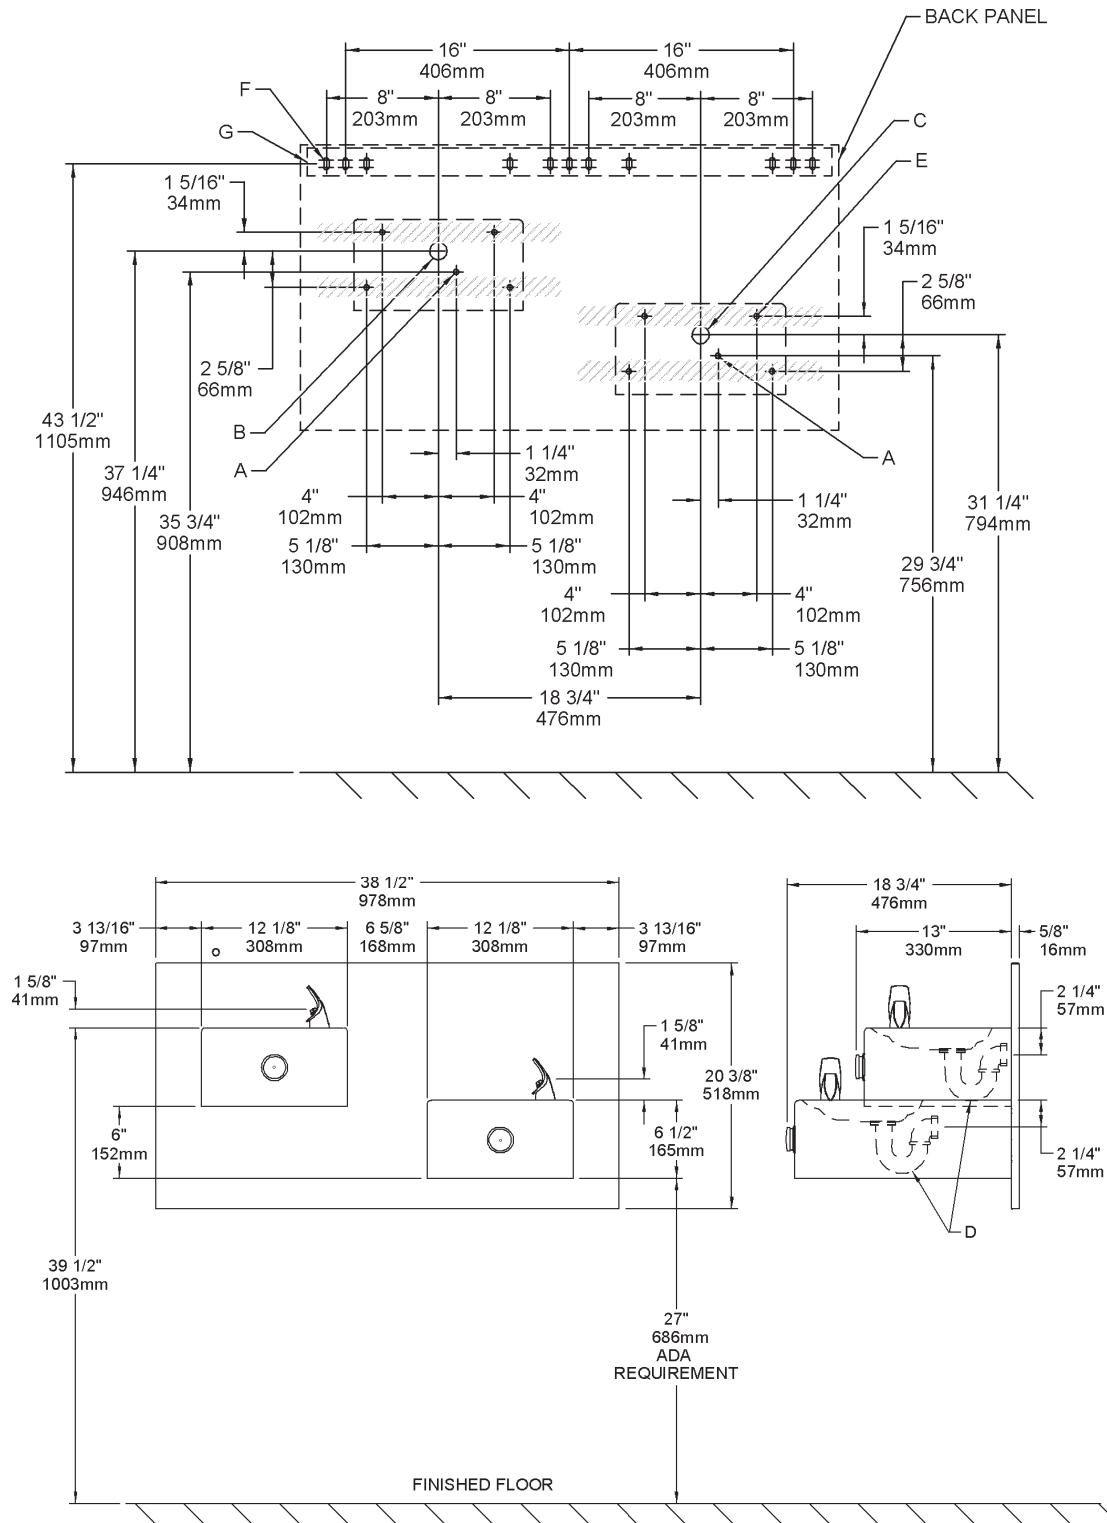

FIG. 3
1. **Wall** should already be framed for the fountain using the positioning dimensions shown in Figures 3, 4, 5, or 6. Shown dimensions pertain to installation location (framing must support up to 300 lbs. weight). These dimensions are required for compliance with ANSI Standard A117.0.
2. **Install** rough-in plumbing as shown in Figures 3, 4, 5, or 6. Waste line should extend a minimum of 2" (51mm) through the back panel. Run the supply water inlet line through the back panel. Install a service stop (not provided). Turn on supply water and flush thoroughly.